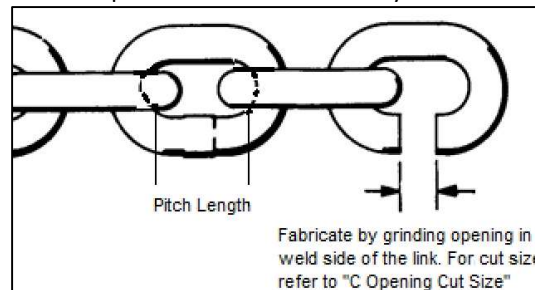

Figure 8.3.1
6. Use open “C” links for attaching the new chain to the old chain (see Figure 8.3.1). Links must be identical in size to hoist chain. Refer to Table 8.3.1 for “C Opening Cut Size”. The new chain is then run into the hoist as the old chain is run out. Be certain that all welds on the links of the replacement chain face away from the center of the load sprocket.